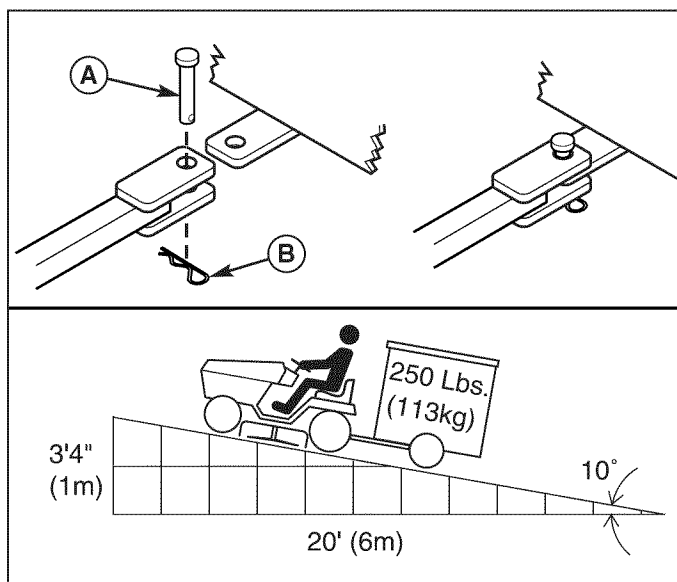

Figure 8. Trailer Weight Recommendations
The maximum horizontal drawbar force allowed is 280 Newton. The maximum vertical drawbar force is 160 Newton. This equates to a 250 lbs (113 kg) trailer on a 10 degree hill. Secure the trailer with an appropriately sized clevis pin (A, Figure 8) and clip (B).